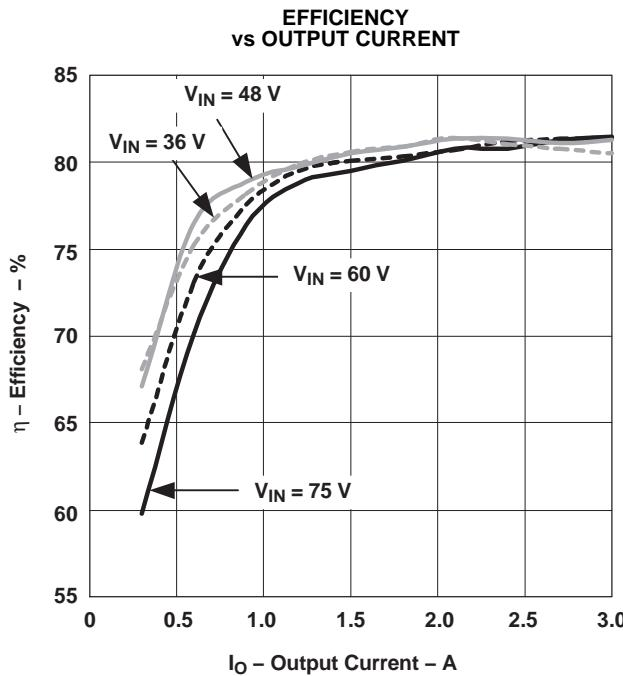
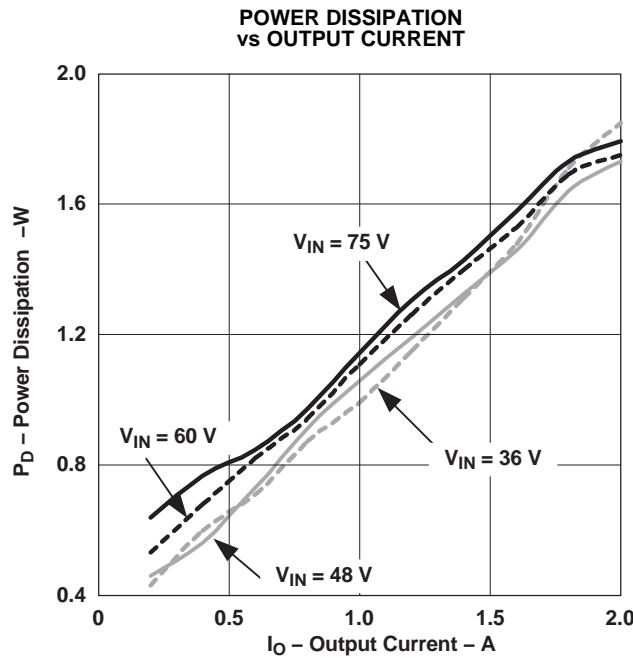
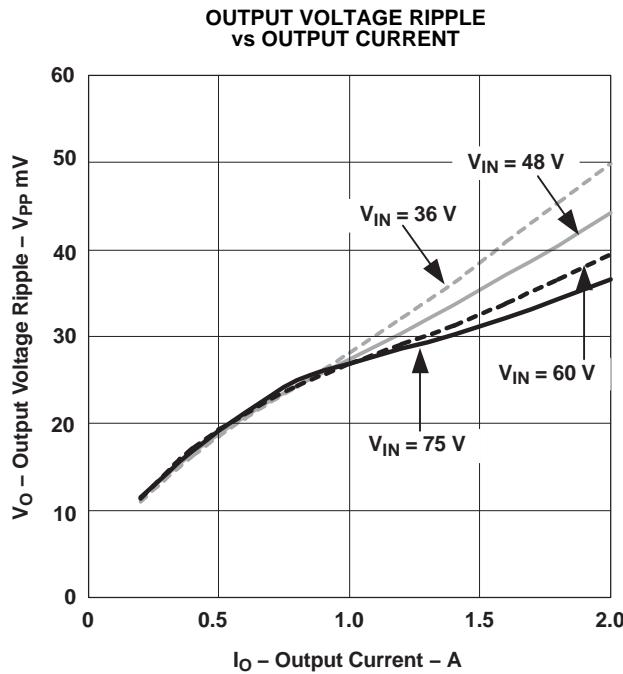

Figure 5.
Figure 6.
Figure 7.
(3) All data listed in Figure 5, Figure 7, and Figure 6 have been developed from actual products tested at 25°C. This data is considered typical data for the dc-dc converter.